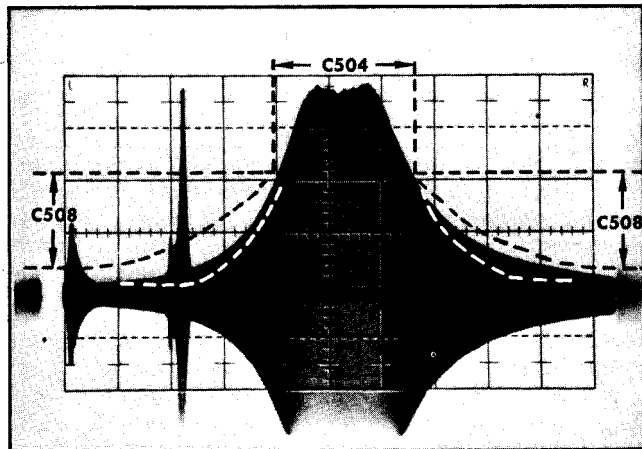
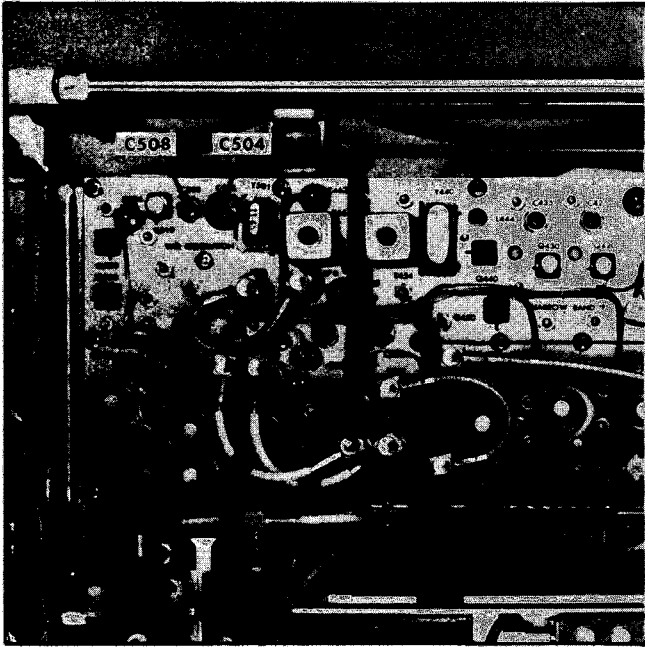

Fig. 6-25. Typical test oscilloscope display when C504 and C508 are adjusted correctly. Dispersion 50 kHz/div, RESOLUTION selector fully clockwise.
Fig. 6-27. Location of C504 and C508.
g. Connect a test oscilloscope through a 10x probe to pin B of the honeycomb square pin connector. Adjust the test oscilloscope sensitivity for a display amplitude of approximately 6 divisions then adjust the triggering controls for a stable display. See Fig. 6-25. (Test oscilloscope sweep rate should be the same as the analyzer sweep rate.)
i. Set, the RESOLUTION selector fully clockwise. Adjust C504 and C508 (Fig. 6-27) for optimum display symmetry on the test oscilloscope See Fig. 6-25. Adjust C504 for the slope of the response and C508 for symmetry. Turn the RESOLUTION selector counterclockwise one step from fully clockwise position. Adjust C601, C604, C607 and C610 for optimum display symmetry and amplitude.